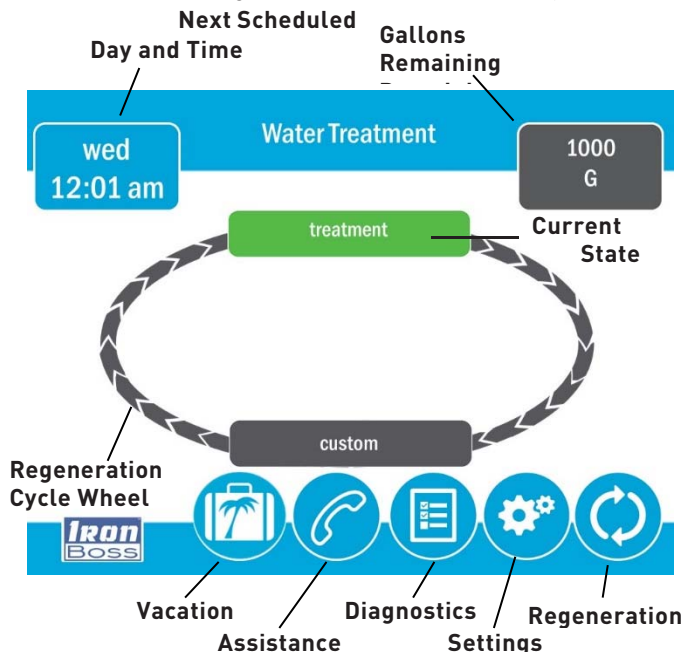

Figure 7 Home Screen
Set assistance interval, then press . Press either the **month** or **regen** button (depending on your previous selection), and select the number of months (up to 60) or regenerations (up to 2000) until the homeowner notified to call for service. Press , Home Screen displays Fig 7.
5. Home screen (Figure 7) Information and Icon Symbols.